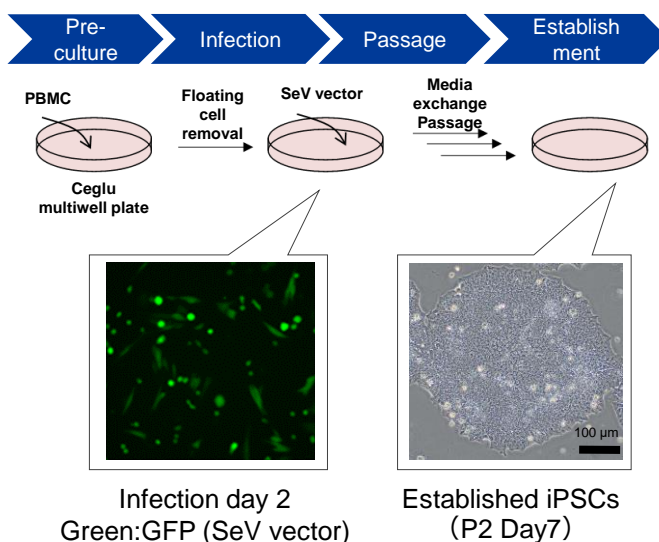

Fig1. iPSCs establishment flow and cell images
1. Research grade frozen PBMCs are seeded onto a Ceglu multiwell plate (**Fig1**)